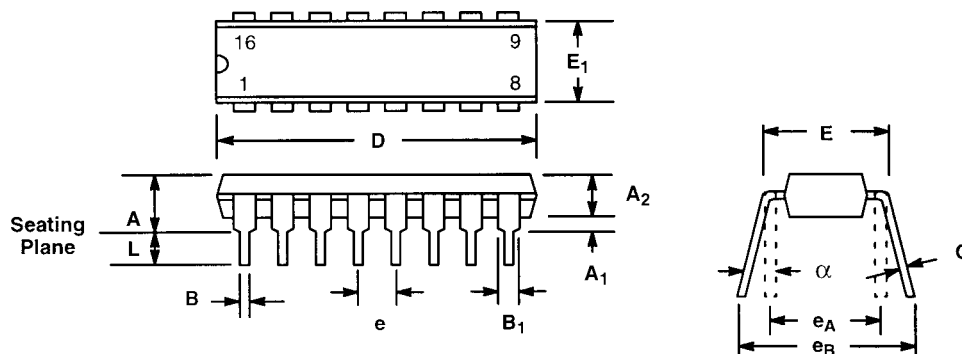

**Figure 2. XRT6164A Line Driver Application**
*Figure 2* shows a general line driver application circuit using the XRT6164A. This device converts CMOS transmit and receive signals in the 64Kbps to 1.544Mbps range to active-low TTL-compatible logic levels. CMOS signals that have been attenuated and distorted by twisted pair cable are transformer-coupled to the line side of the XRT6164A as shown on the left side of *Figure 2*. Suggested transformers for both the input and output applications are the Pulse types PE-65535 or TTI-7147 for 64Kbps use and the PE-65835 for 1.544Mbps applications.
The right side of *Figure 2* shows the TTL-compatible digital inputs and outputs. Please refer to the pin description section of this data sheet for detailed information about each signal.